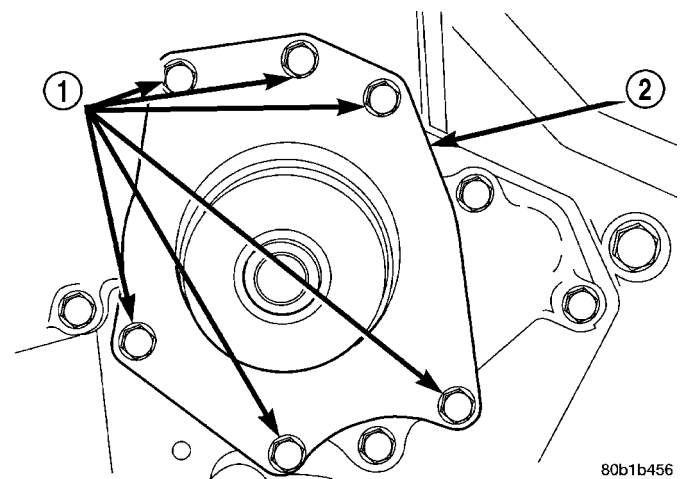

Fig. 19 Water Pump - 3.5L Engine
(2) Remove engine timing belt (Refer to 9 - ENGINE/VALVE TIMING/TIMING BELT/CHAIN AND SPROCKETS - REMOVAL).
(3) Remove water pump mounting bolts (Fig. 19). Note position of longer bolt for proper re-installation.
(4) Remove water pump body from engine (Fig. 19).